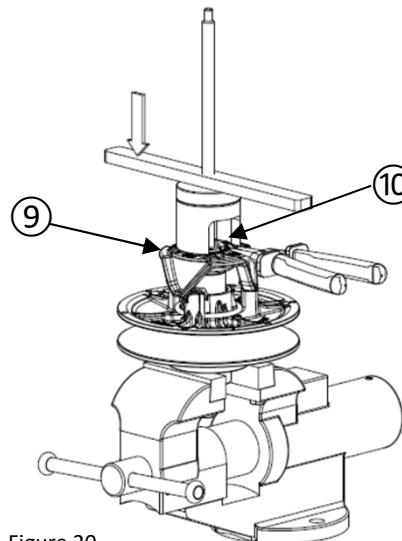

Figure 20
- Remove the retaining ring ⑩ using the snap ring pliers (figure 20).